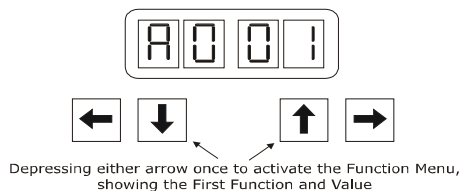

Figure 2: Display Function Menu Activated
- A) **Depress once** either the **Up or Down Arrow** to **activate** the Function Menu. (refer to Figure 2:)